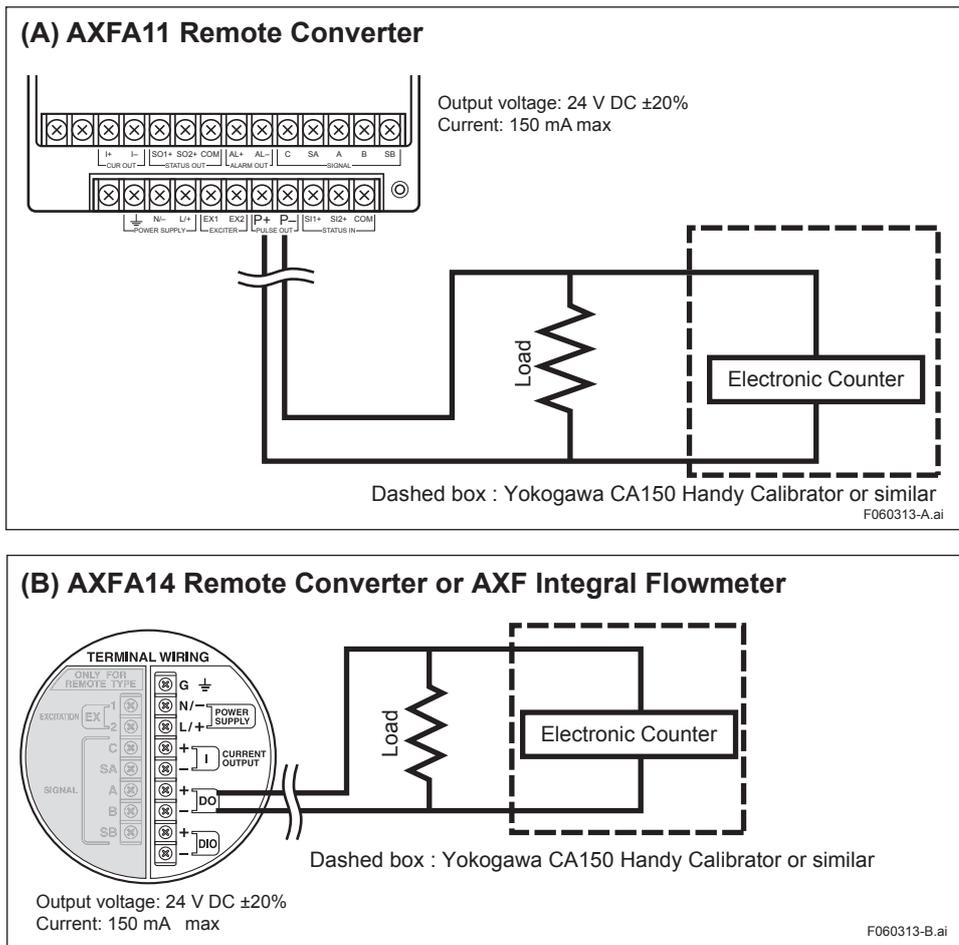

Figure 6.3.13 Active Pulse Output Diagram (with optional code EM)
- 1) Wire AXF and CA150 Handy Calibrator or similar as shown in **Figure 6.3.13**.
- 4) Measure the pulse output value in “pps” with a Yokogawa CA150 Handy Calibrator or equivalent to simplify the measurement of pulses. If such a device is unavailable, use the configuration shown in **Figure 6.3.13**.